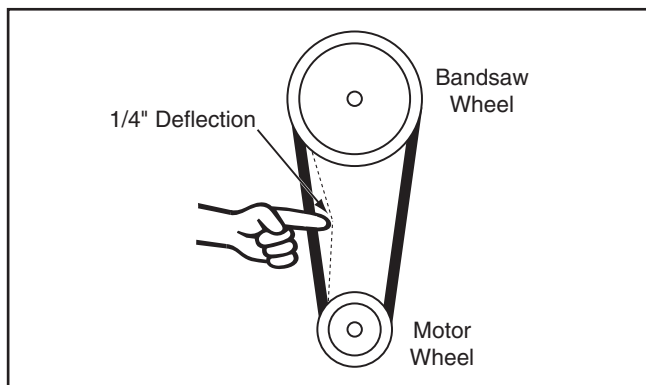

Figure 46. $\frac{1}{4}$ " V-belt deflection.
6. Apply pressure on the motor so there is approximately $\frac{1}{4}$ " V-belt deflection (see **Figure 46**), then re-tighten the motor mount cap screws.